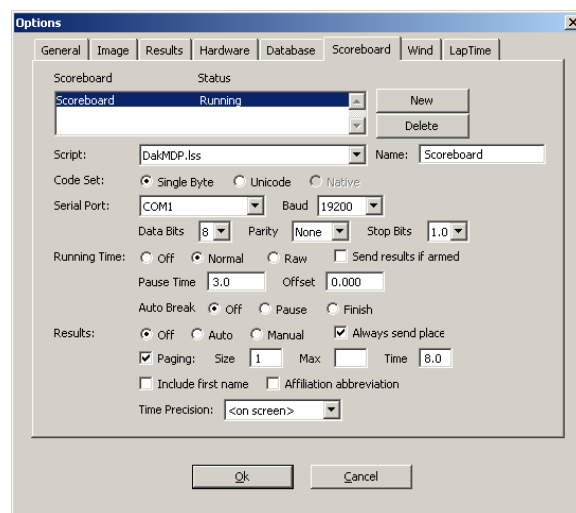

Figure 11: Scoreboard Options for 6 or 7-Digit Clock
3. Set up the scoreboard options on the FinishLynx computer as follows (refer also to *Figure 11*):